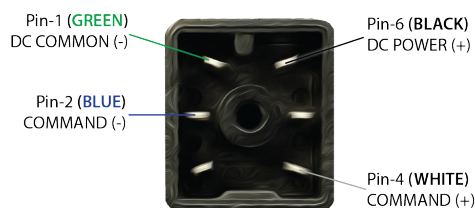

Figure 2
3. Figure 1 shows the location of the ISQB1 electrical connector and Figure 2 shows the connector.